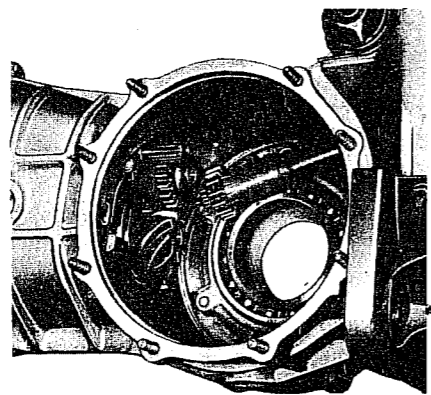

Fig. E.12. Separating the drive shaft.
4. Take the circlip for the reverse gear off the drive shaft, pull off the gear and screw the two parts of the shaft apart. (Fig. E 12).